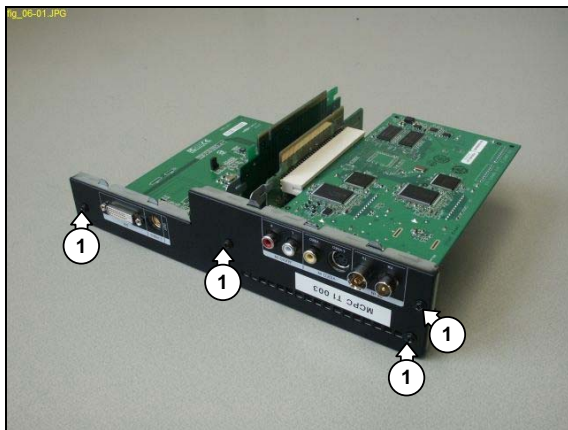

Figure 12.6-1
3. Remove the 4 mounting screws (1) from the riser card subassembly backplate. See Figure 12.6-1.